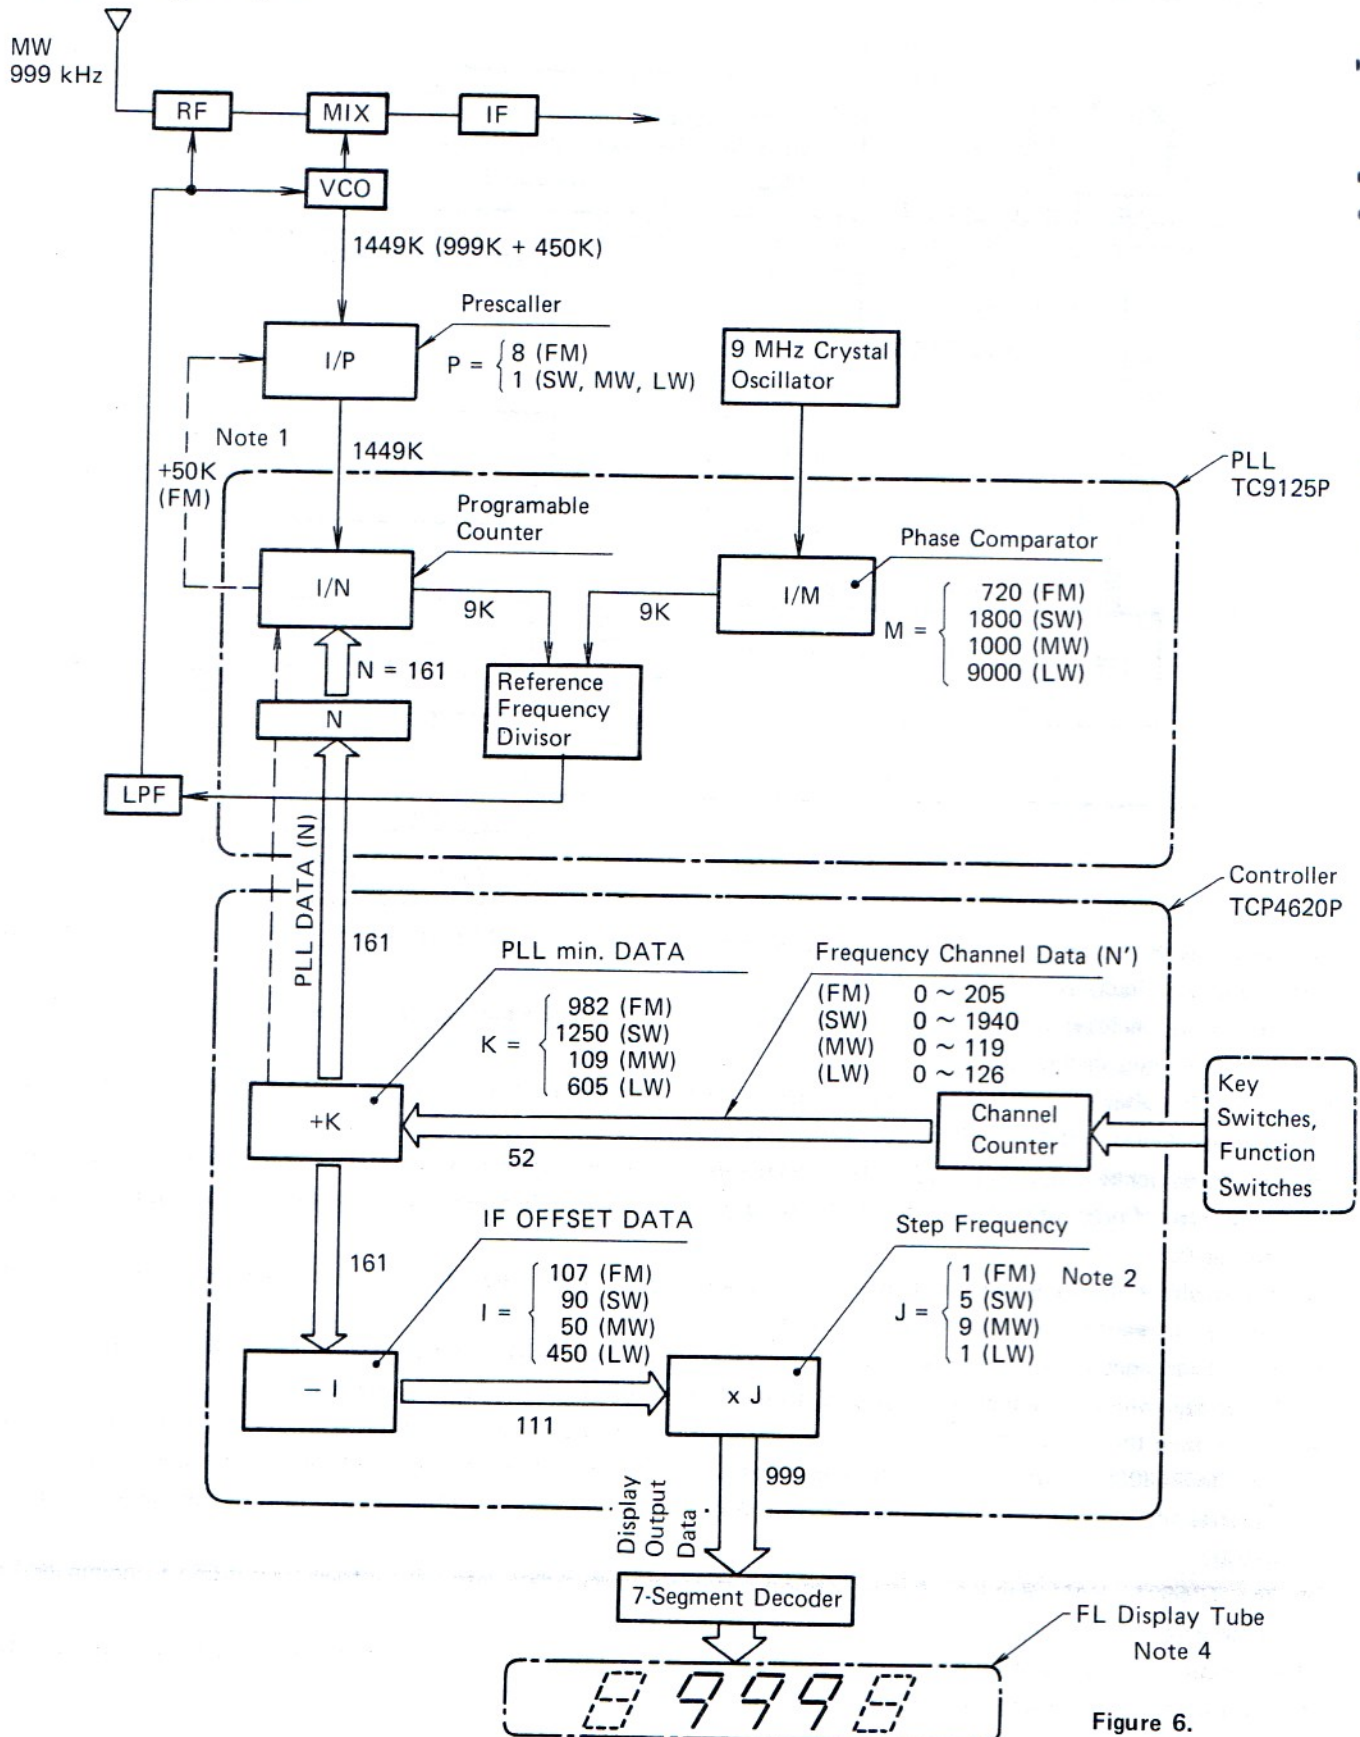

Figure 6.
Fig. 6 above outlines the flow of data. The example shown is for reception of 999 kHz in the MW band.
- The programmable counter is a frequency divider capable of controlling the frequency divisor according to the program data (corresponds to N in Fig. 6) supplied by the TCP4620P controller. This counter handles up to 4 digits (16 bits) in columns A, B, C and D.